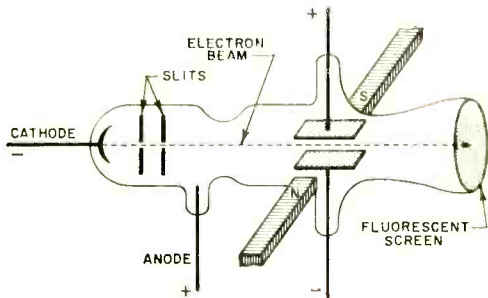

Fig. 1. Thomson was able to calculate the ratio of the electron's charge to its mass by bending the electron beam with known electrostatic and magnetic fields.
Fig. 1. The four most common power output arrangements: (A) push-pull triodes, (B) push-pull pentodes, (C) Ultra-Linear, or "screen-tapped" circuit, and (D) McIntosh's "Unity-Coupled" circuit.
Power Output Circuits. There is a great variety of circuits for push-pull operation, but practically all commercial amplifiers use one of the four circuits diagrammed in Fig. 1.
In Fig. 1(A) we have a push-pull triode pair. The tubes can be true triodes, though more often they are tetrodes or pentodes used as triodes by connecting the screen grids to the plates. Although power triodes were very popular at one time because of their low distortion characteristics, they have some serious disadvantages.
The pentode configuration of Fig. 1(B) is highly sensitive and efficient. Furthermore, the capacitances of pentodes are very low and therefore losses at high frequencies are low and high feedback factors are easy to obtain. Pentode output stages are finding wide usage, particularly in the 10- to 20-watt class of amplifiers utilizing EL84 output tubes.
Today's most popular circuit is the "screen-tapped" or Ultra-Linear arrangement in Fig. 1(C). This circuit is built around an output transformer with special primary taps which are connected to the screen grids of the output tubes. The result is a sort of hybrid operation somewhere between that of triodes and pentodes, combining the best features of each. Among other things, given good output transformers, it permits the use of very high feedback factors.
The fourth major output configuration—the "Unity-Coupled" circuit shown in Fig. 1(D)—is found only in the McIntosh amplifiers. This circuit is basically a "split-load" type, with part of the load in the plate circuit and part in the cathode circuit. The two loads are "unity-coupled" by winding the primaries side by side in bifilar form. Also, the plates are cross-coupled in relation to the cathodes and screens.
Sir J. J. Thomson, using the apparatus shown in Fig. 1, was able to compute the ratio of the charge of a single particle in the beam to its mass. In so doing he proved that the beam was composed of individual, negatively charged particles. This was the discovery of the *electron*.